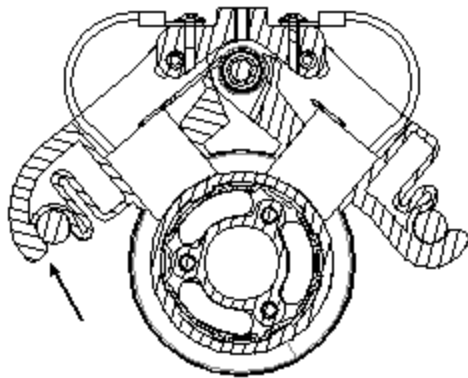

Fig.19
- Leverage to remove the brush holder (Fig. 19).